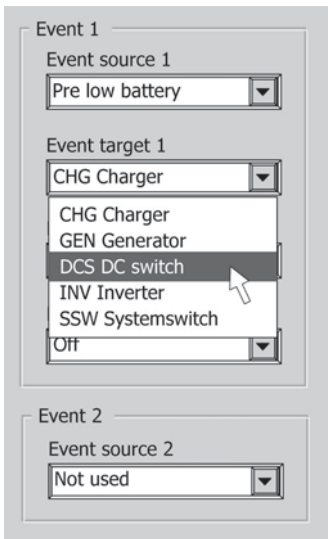

Figure 15
- 4 Select the name of the device that should take action in case of this event: *Event target*. (Example: DC switch) (figure 15).